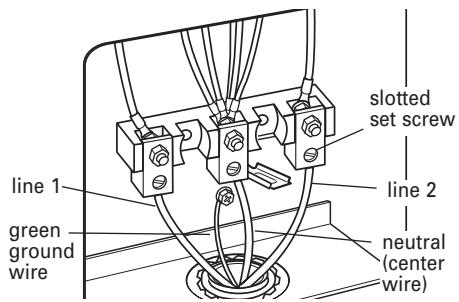

Figure 2
11. Connect the green ground wire from power supply cable to the range using the ground screw and cup washer. The ground wire must be attached first and must not contact any other terminal. See Figure 2.
14. Securely tighten the set screws. For 8 gauge copper wire, tighten to 25 in/lbs of torque, and for 6 gauge aluminum wire, tighten to 35 in/lbs of torque to make a proper electrical connection. See Figure 2.